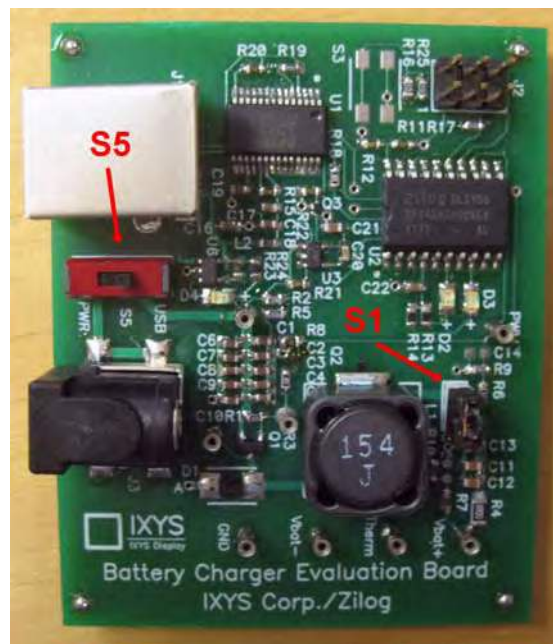

Figure 6. Shunt and Switch Locations on the Battery Charger Reference Module
3. Ensure that the S1 shunt is ON, and slide switch S5 to the USB position. Figure 6 indicates the locations of S1 and S5 on the Module.